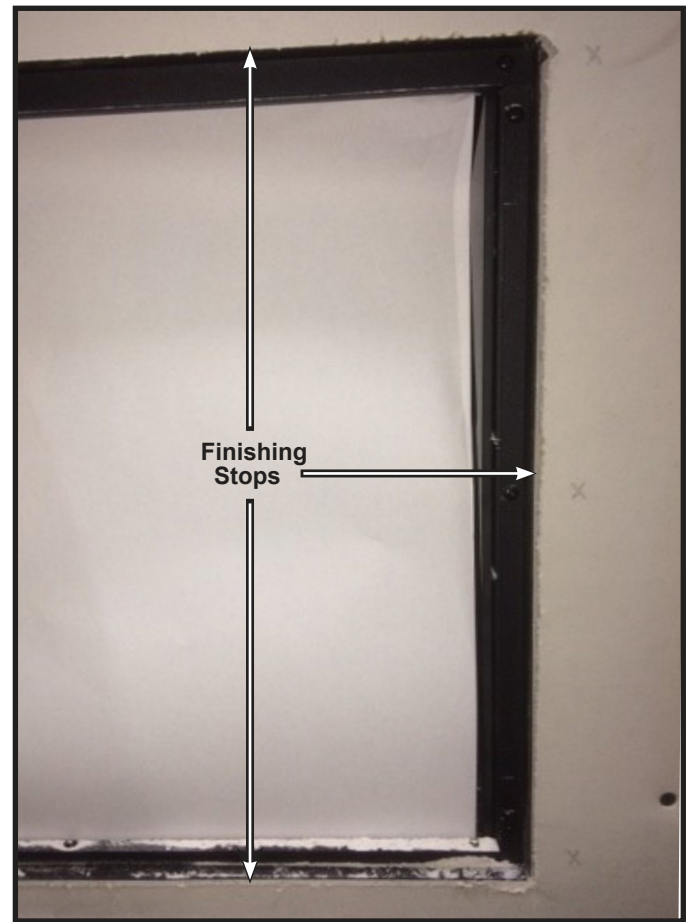

Figure 4.5 Wall Finishing Stop Locations and Dimensions
3. If finishing with painted drywall, install ½ in. thick gypsum wallboard so that it mates with the finishing stops around the appliance opening. See Figure 4.5.
4. If finishing with another desired facing material up to 9/16 in. total thickness, install the material so it mates with the finishing stops around the appliance opening. See Figure 4.5.
9. The 1/2 in. Trim Ring will overlap the finishing stops by 1/4 in. See Figure 4.5 and 4.7.
4. Complete finishing of the wall around the appliance. Decorative facing materials can be installed up to the finishing stops. See Figure 4.5. There is no limitation to thickness of facing materials.